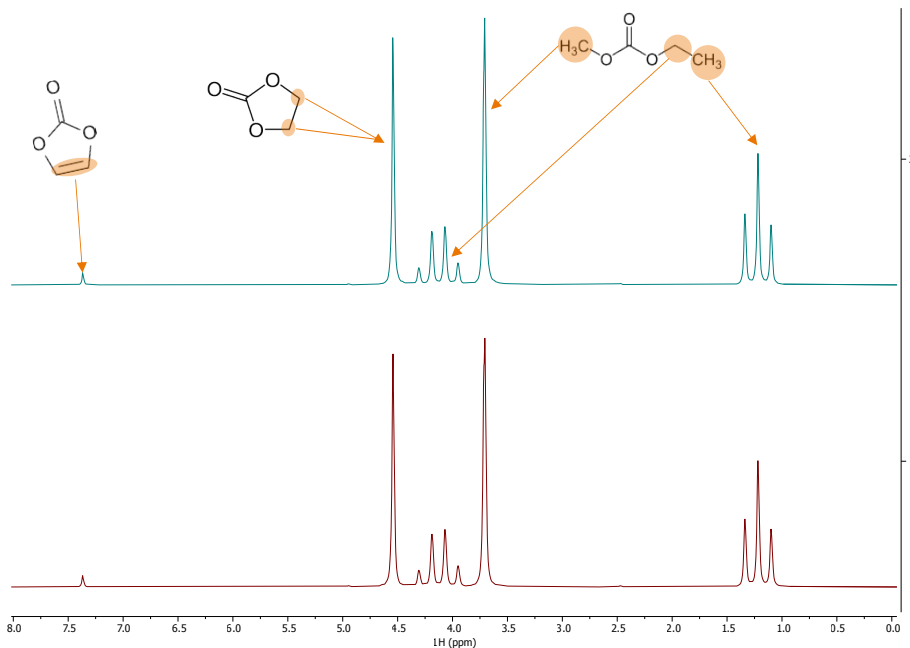

Figure 6 -  $^1\text{H}$  Spectra of two different batches of  $\text{LiPH}_6$  in EMC/EC
In this case study, a chemical manufacturer had two different batches of their final product, a typical battery electrolyte of lithium hexafluorophosphate ( $\text{LiPF}_6$ ) in a mixture of two carbonated solvents, ethyl methyl carbonate (EMC) and ethylene carbonate (EC). Although to the eye the two batches B1 and B2, looked identical it was found that batch B2 had very different performance characteristics to those expected when placed inside a battery cell. As with the previous examples, initially the  $^1\text{H}$  spectra of the two compounds were collected. The spectra both show all the expected peaks for the  $^1\text{H}$  nuclei in the two solvents as identified in figure 6. Visually, they appear identical. Again, as with the previous example